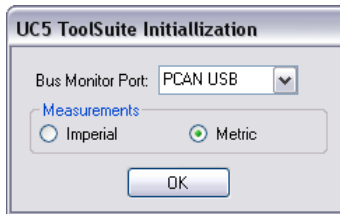

Figure 7: UC5 Toolsuite Initialization Screen
2. In the UC5 Toolsuite Initialization screen (Figure 7), select the bus monitor being used in the *Bus Monitor Port* drop-down list: